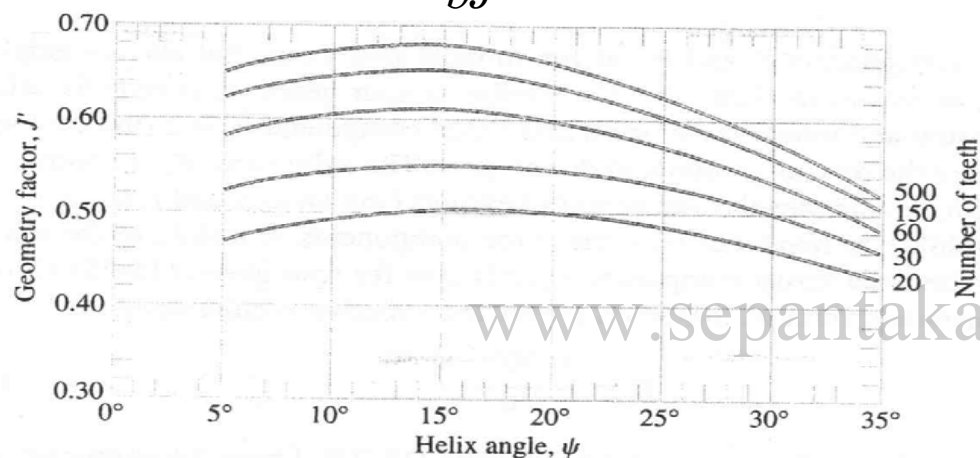

Figure 15.37
Modifying factor M_J to be multiplied times geometry factor J' (see Figure 15.37) when mating helical gear ($\varphi_n = 20^\circ$) has other than 75 teeth. (From ref. 22. (Adapted from ANSI/AGMA Standard 6021-G89, with the permission of the publisher, American Gear Manufacturers Association, 1500 King Street, Suite 201, Alexandria, VA 22314.)